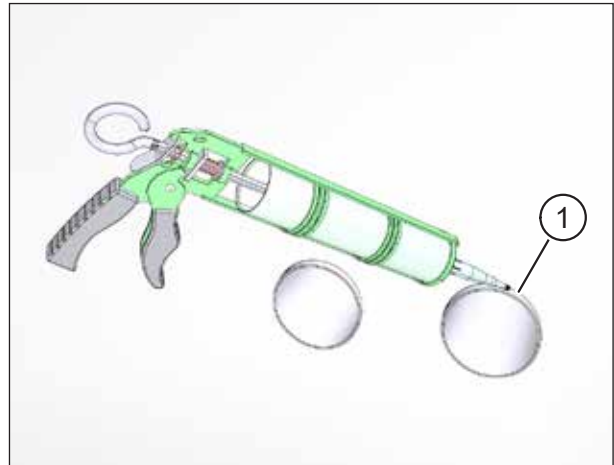

Fig. 72: Sealing ventilation pipes on external wall
- ▶ Chamfer both pipe breakthrough edges (item 1 in Fig. 72) to roughly 5 x 45° to create enough space for the sealing joints with permanently elastic sealant.